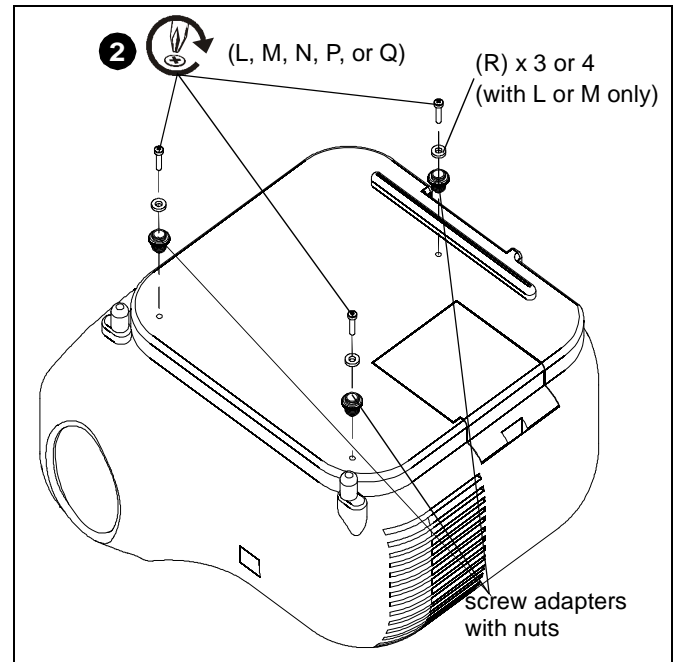

Figure 2
2. Insert screws through M4 flat washers (R), screw adapters with height-adjustable nuts and into projector holes. (See Figure 2)
**NOTE:** Only use washers (R) if using L or M screws to attach screw adapters to projector.